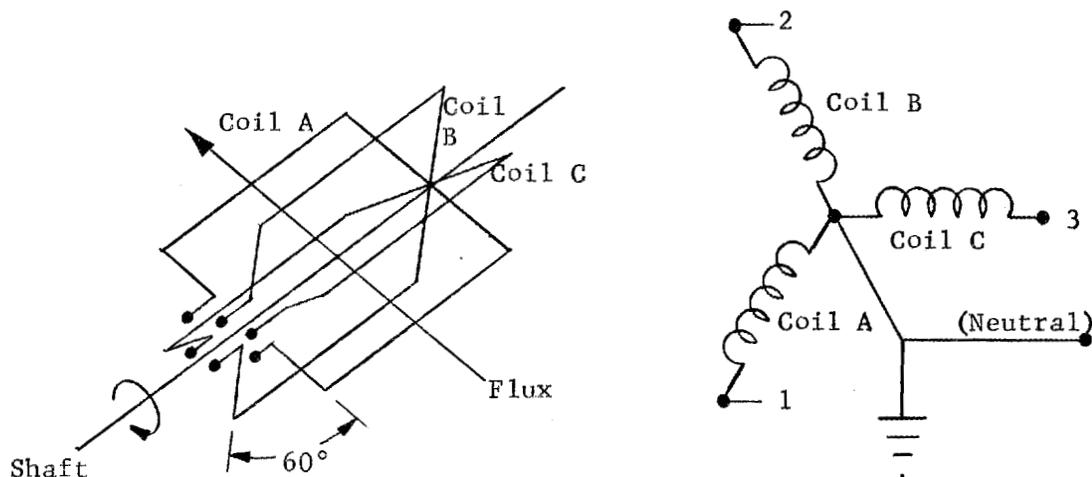

Fig. V-22. Coil Arrangement and Connections for 3 \emptyset Alternator
9. If the coils were interconnected in the manner indicated in Figure V-22, three-phase power could be taken from points 1, 2, and 3. Each phase is carried by a separate conductor. Normally, a fourth conductor is provided as the "neutral" or "grounded" side of the circuit.